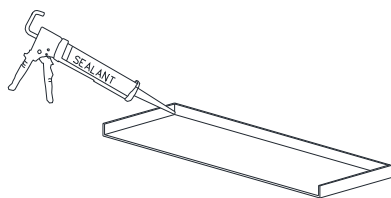

Figure 3:
- Apply sealant in all corners and seams of the sill pan (Figure 3).